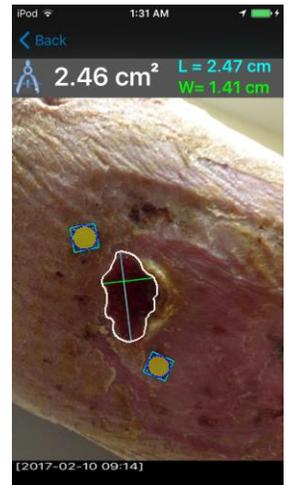
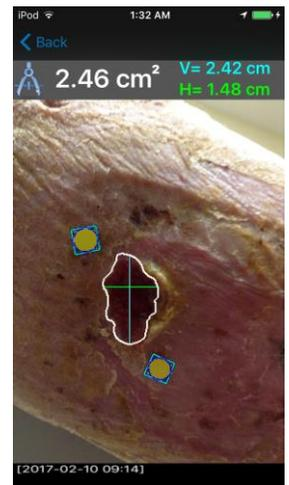

Figure 22: Length & Width
Figure 23: Vertical & Horizontal
1. Ensure the Standard Imaging Mode wound image is captured with 2 MolecuLight WoundStickers (P/N 1266) placed close to and within the plane of the wound. Measurement accuracy will be degraded if the MolecuLight WoundStickers are off plane, in which case stickers may appear elliptical. For optimal results, ensure the MolecuLight WoundSticker placement is at the 1 and 7 o'clock position or at the 11 and 5 o'clock position when holding the MolecuLight *i:X* in a portrait (vertical) orientation, as depicted in Figure 22 and Figure 23.